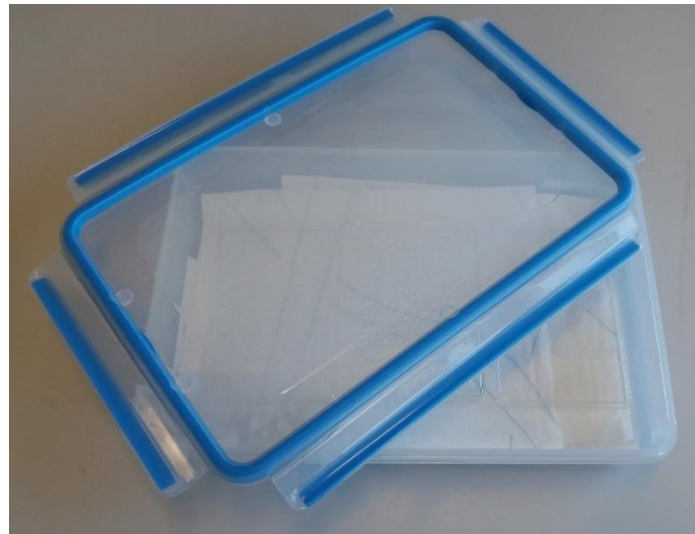

Fig. 3: Exemplary storage box with paper towel that can hold 3 Multiwell-MEA plates.
- 1) Place a paper towel on the bottom of a storage box (Fig. 3) and add 5 - 10 ml distilled water to moisten the paper towel.